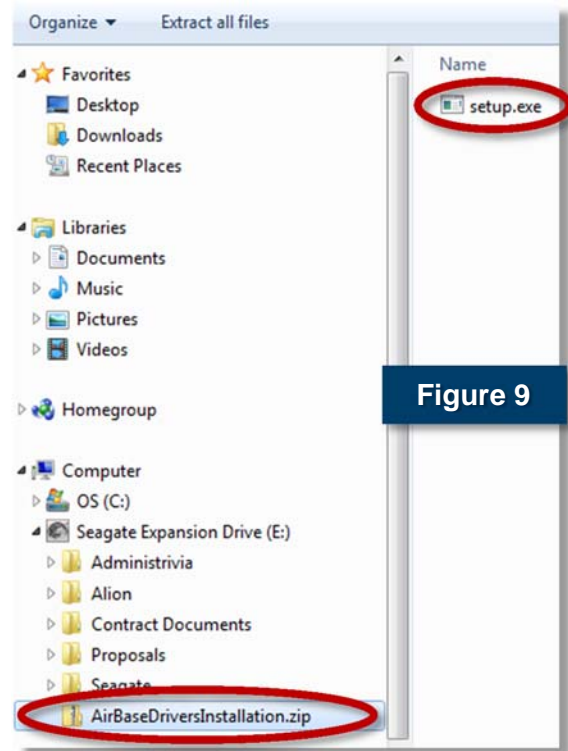

Figure 9
3. Open the **AirBaseDriversInstallation.zip** file created during the download, and double click '**setup.exe**' to launch the installation wizard (Figure 9).